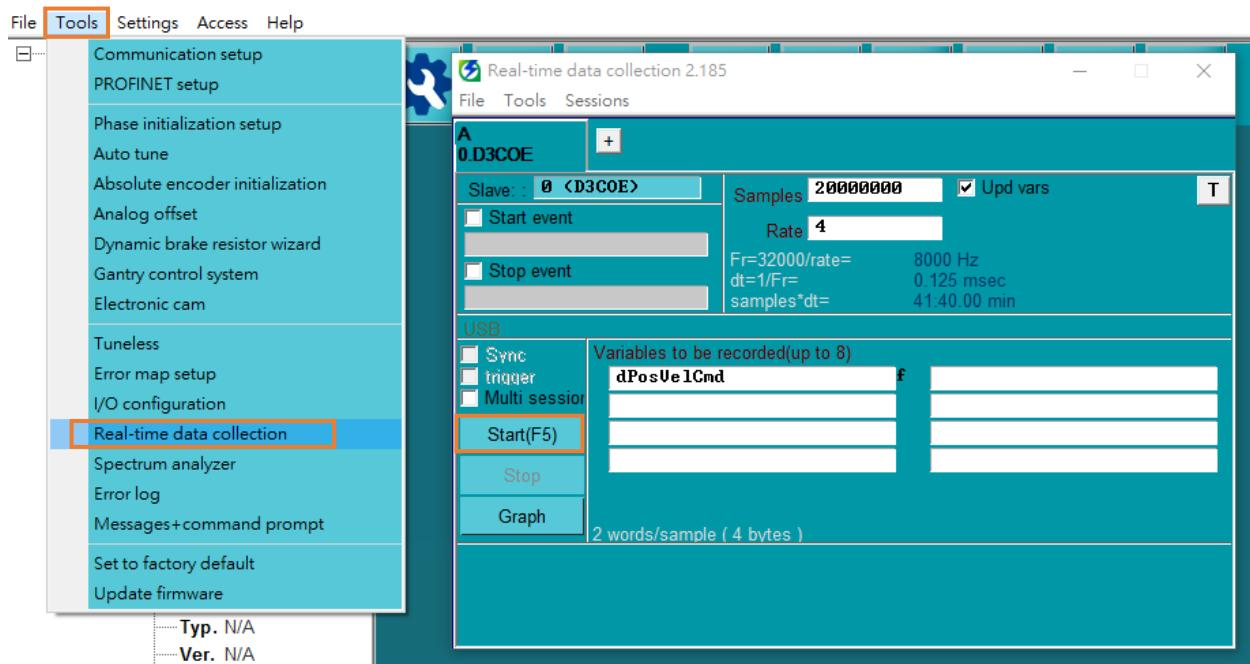
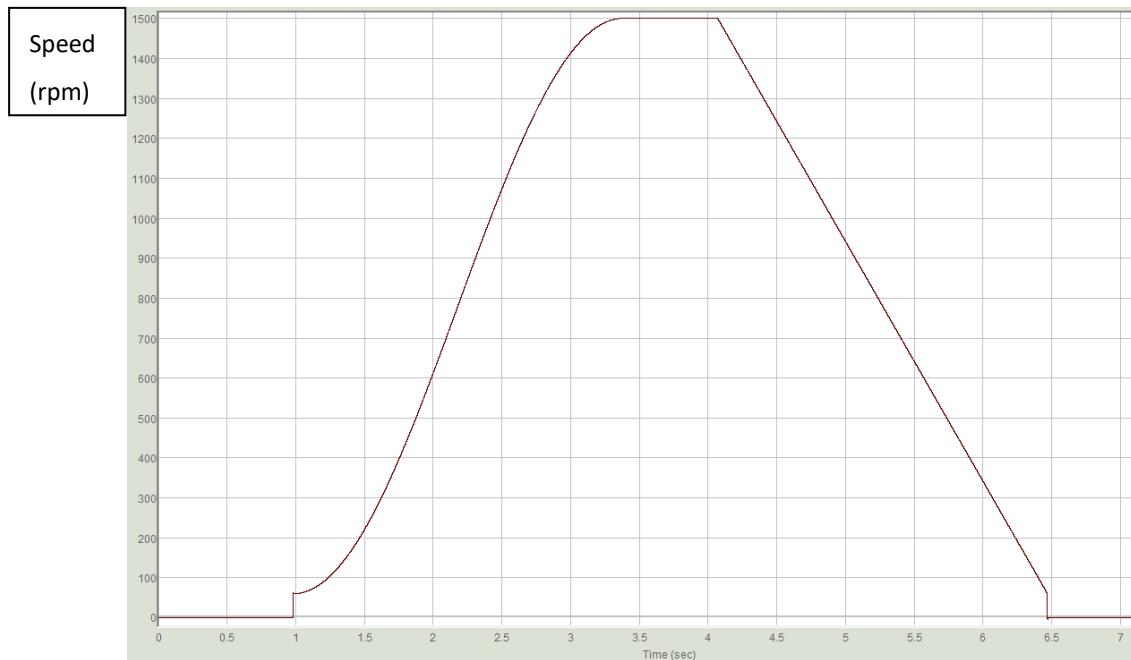

Figure 3.2.2
Figure 3.2.4
4. Open **Thunder > Tools > Real-time data collection**, click **Stop** and then press **Graph** (refer to Figure 3.2.2) to generate Figure 3.2.4.